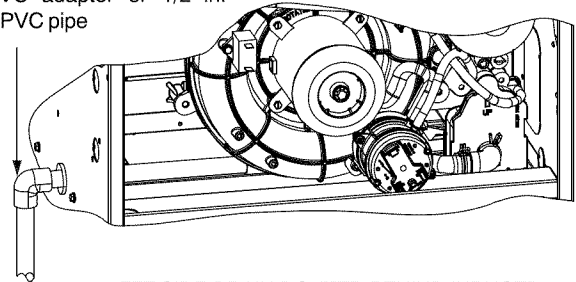

Fig. 17 - Drain Trap Connection and Routing
2. The Z-pipe is connected to the condensate trap and the outside of the furnace by modifying the formed rubber drain elbow as shown in Fig. 17.